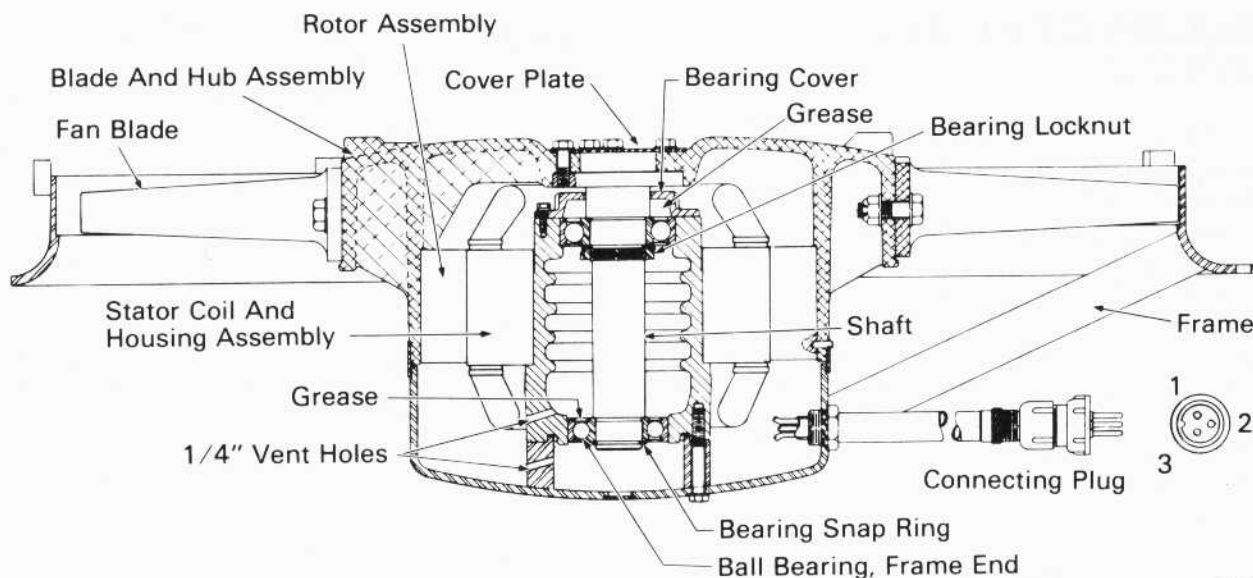

Fig. 2 - Cross-Section Of Cooling Fan Assembly
With the fan and motor positioned with the fan end up, refer to Fig. 2, and disassemble as follows:
5. Inspect the hub portion of the fan frame, and the bearing housing for 1/4" vent holes, Fig. 2. If holes are not present, drill in locations indicated.
1. Make sure that shaft and housing bore are clean and free of burrs. Refer to Fig. 2.